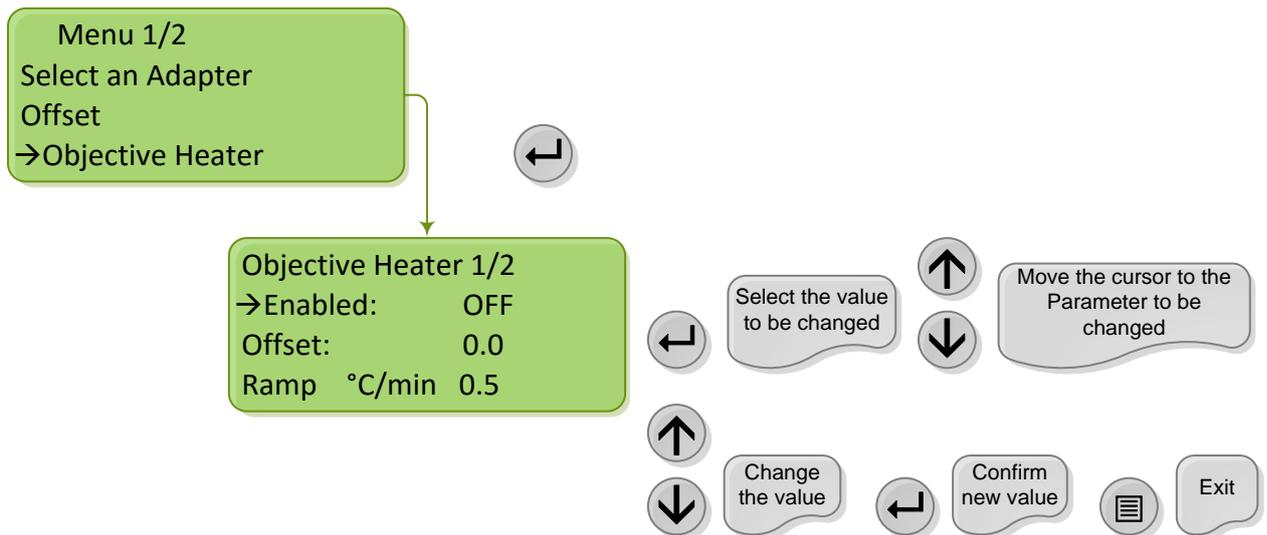
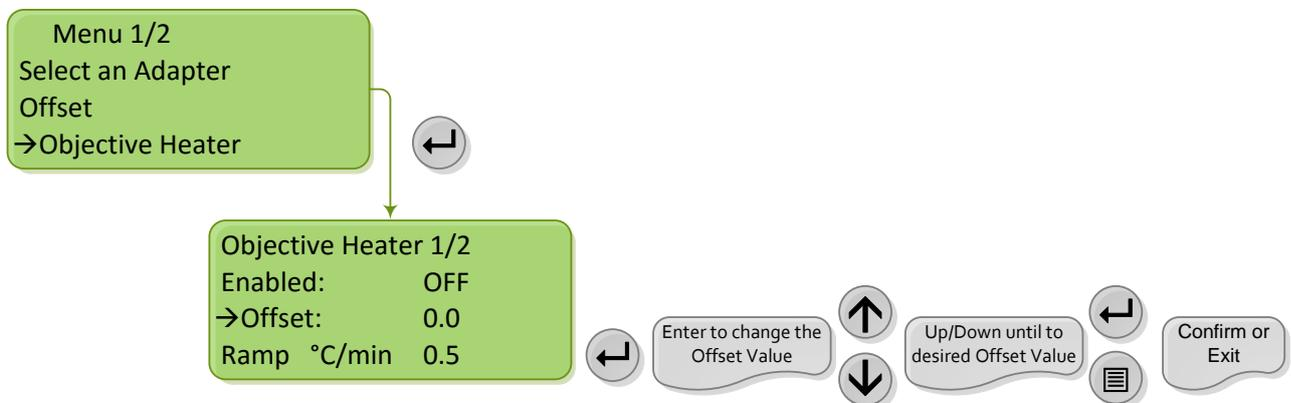

Figure 27. Objective Heater Settings Menu.
Figure 30. How to change the Objective Heater offset.
In this Submenu, the User can set a manual offset for Objective Heater as described in Figure 30 and following the procedure described in paragraph 14.
6. When the Fine Gauge Thermocouple reads a stable temperature open the 'Objective Heater Submenu' as shown in Figure 27 and select the 'Offset' item (See Figure 30) . Next click on “+” or “-” on the 'Offset' to adjust the Objective Heater offset value. Okolab recommends starting with an offset value corresponding to the difference between the set point temperature and the actual temperature measured by the Fine Gauge Thermocouple. Press 'Enter' and wait until the temperature measured by the Fine Gauge Thermocouple is stable. If the temperature measured by the Fine Gauge Thermocouple is now close to the set point, then the Manual Calibration is complete. If the temperature measured by the Fine Gauge Thermocouple is far from the set point, repeat the steps above until the temperature measured by the Fine Gauge Thermocouple reaches the set point temperature.